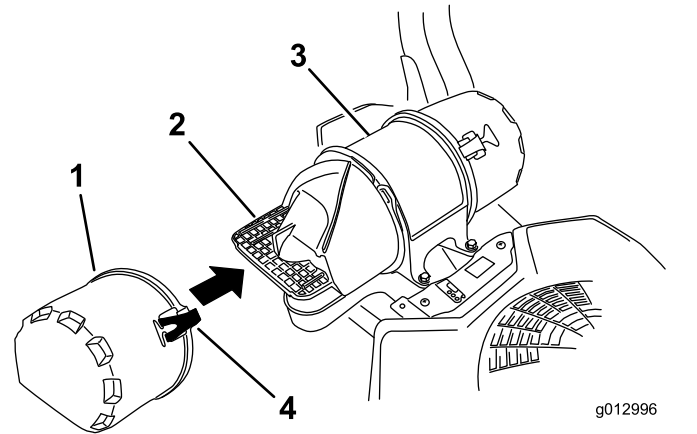

Figure 28
3. Release the latches on the air cleaner and pull the air-inlet cover off the air-cleaner body (Figure 28).
5. Install the air-inlet cover and secure it with the latches (Figure 28).
- Install the air-cleaner cover and secure the latches (Figure 28).